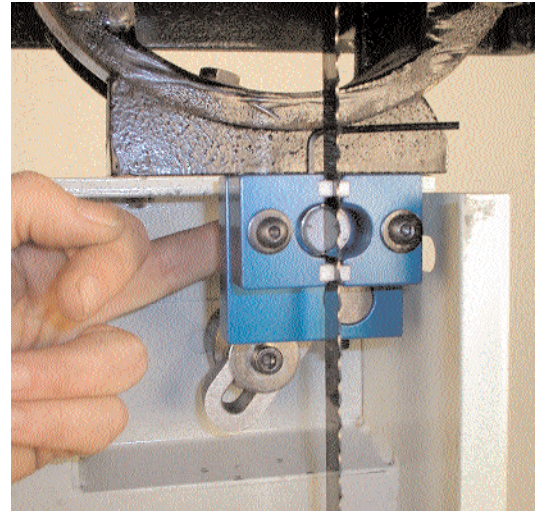

Fig. 19
Ensure that the support block is parallel to the band saw. See Fig. 19.
5. Loosen the back blade guide clamp screw and push it forward so that it just touches the back of the blade. Tighten the guide in position. See Fig. 19.
Note: Rotate the back blade guide approximately 15 degrees after every 8 hours of use. This will greatly extend the life of the back blade guide, as it will even out the wear. See Fig. 19.